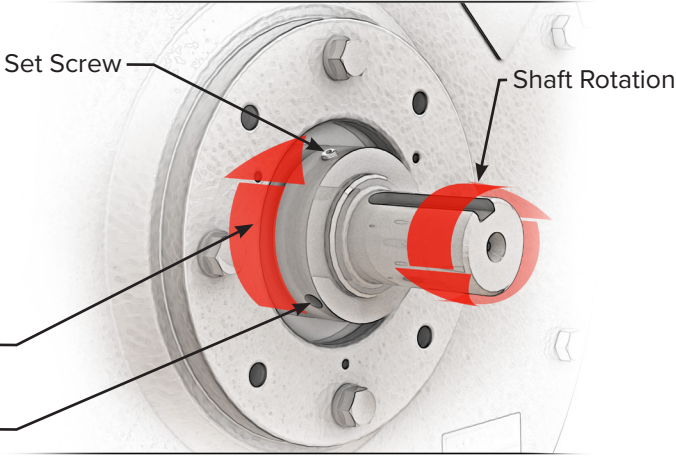

Figure 9
9. If adjustment is needed, remove the chain guard, shaft cover, drive chain, sprockets and bushing, chain guard backplate, and both lock collars (see Figure 9).
- 5. Remove both lock collars and dress the shaft using a file and emery cloth (see Figure 9).